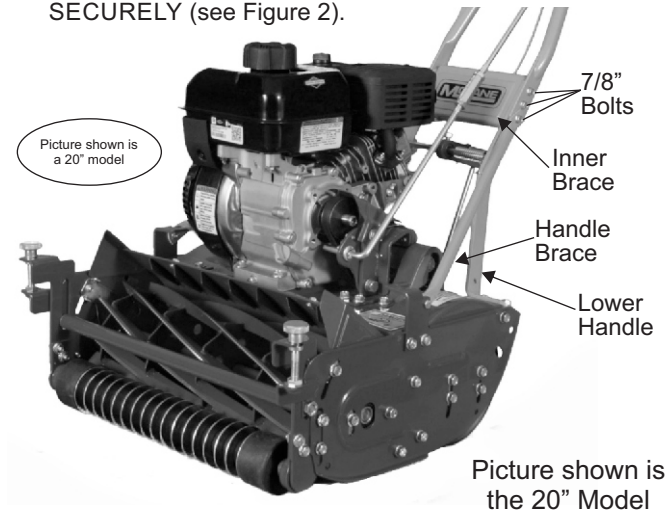

FIGURE 2: Tighten all six handle bolts and nuts SECURELY.
- E. install one nut on each bolt, then tighten the nuts SECURELY (see Figure 2).